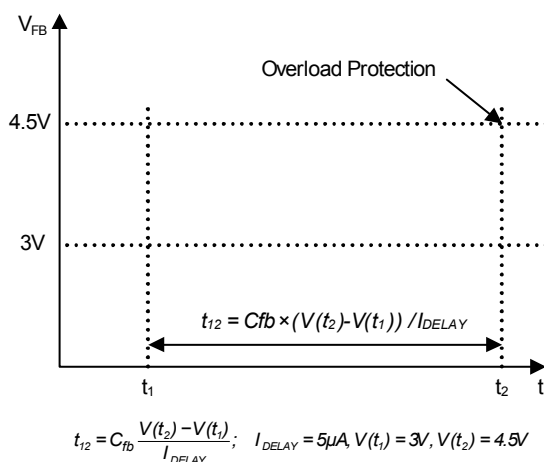

Figure 18. Overload Protection (OLP)
**4.1 Overload Protection (OLP):** Overload is defined as the load current exceeding a pre-set level due to an unexpected event. In this situation, the protection circuit should be activated to protect the SMPS. However, even when the SMPS is operating normally, the overload protection (OLP) circuit can be activated during the load transition. To avoid this undesired operation, the OLP circuit is designed to be activated after a specified time to determine whether it is a transient situation or a true overload situation. If the output consumes more than the maximum power determined by  $I_{LIM}$ , the output voltage ( $V_O$ ) decreases below its rating voltage. This reduces the current through the opto-coupler LED, which also reduces the opto-coupler transistor current, thus increasing the feedback voltage ( $V_{FB}$ ). If  $V_{FB}$  exceeds 3V, the feedback input diode is blocked and the 5 $\mu$ A current source ( $I_{DELAY}$ ) starts to charge  $C_{FB}$  slowly up to  $V_{CC}$ . In this condition,  $V_{FB}$  increases until it reaches 4.5V, when the switching operation is terminated, as shown in Figure 18. The shutdown delay time is the time required to charge  $C_{FB}$  from 3V to 4.5V with a 5 $\mu$ A current source.